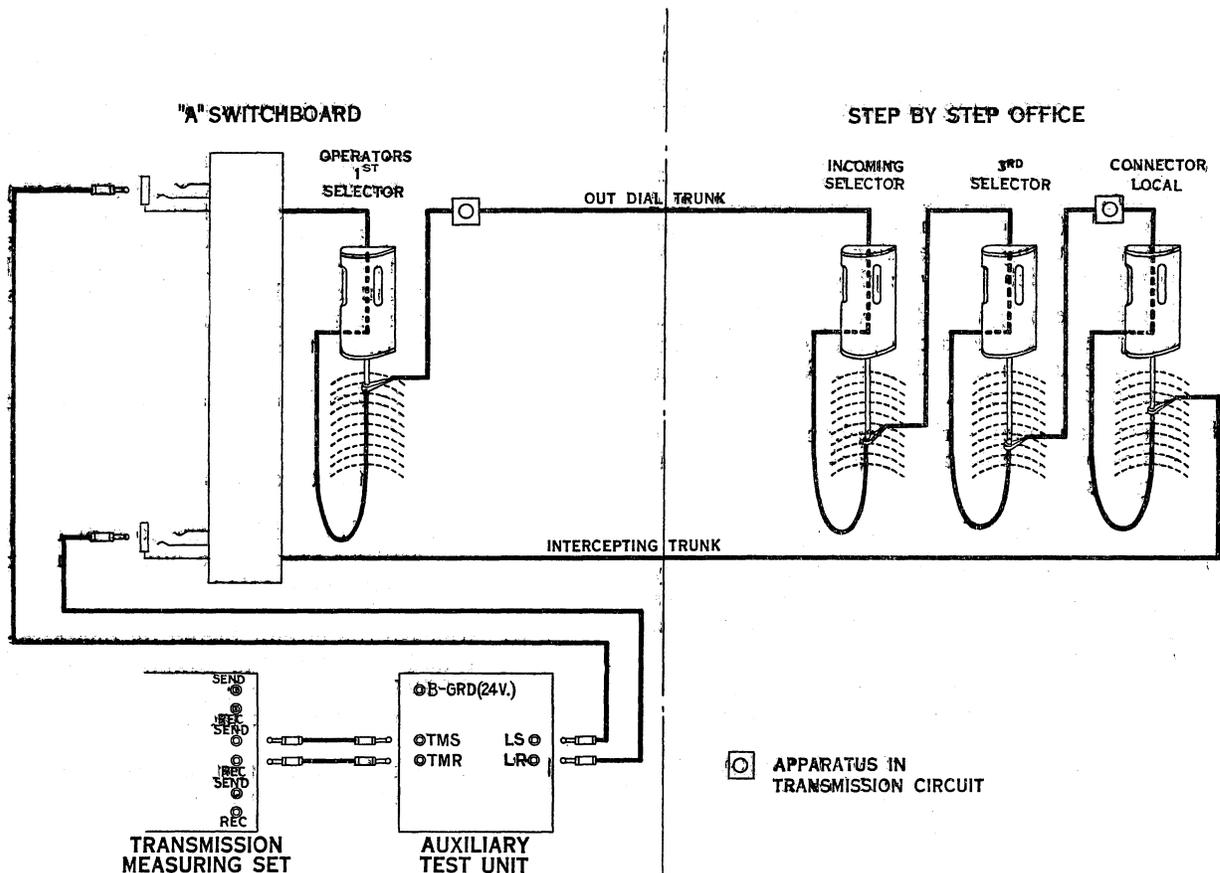

Figure 1
4.03 Figure 1 shows schematically the connections for the test.